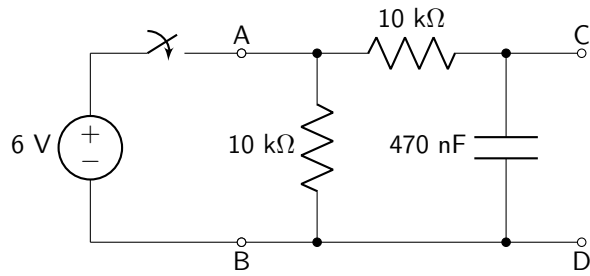

Figure 8.8: One of the mystery RC circuits from Circuit 5.
4. The circuit shown in figure 8.8 corresponds to one of the mystery RC circuits from Circuit 5.